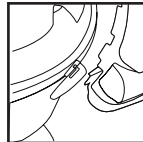

FIGURE 12
11. Place "J" shaped tabs into the slots on cord wraps. **FIGURE 12.** Press down until tabs snap into place.